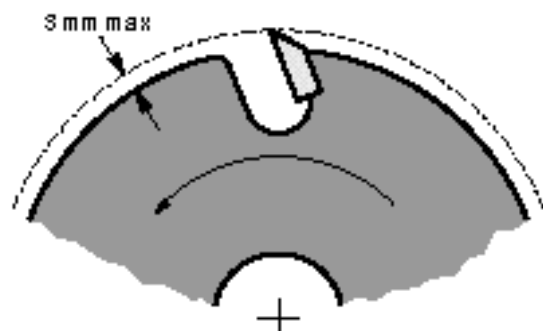

Figure 1 Round form tool with limited cutter projection
- the round profile of the tool body (see Figure 1); or